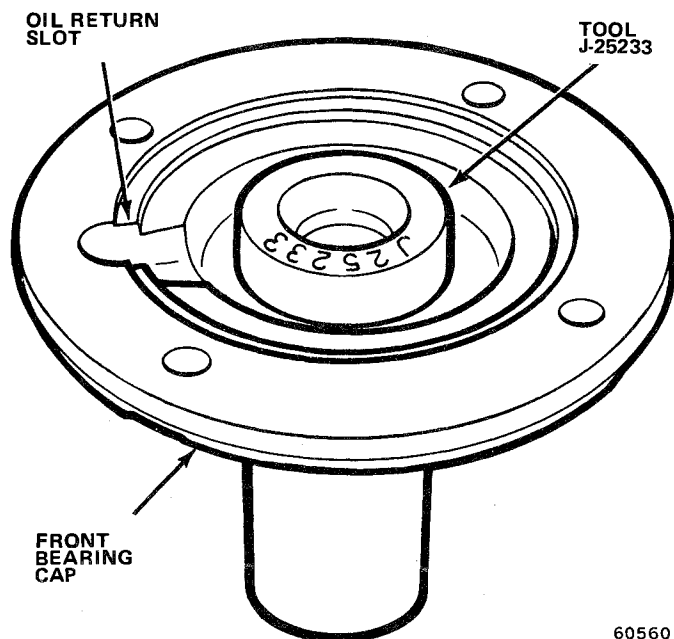

Fig. 2B-15 Front Bearing Cap Oil Seal Installation
(27) Coat blocking ring surface of clutch shaft with transmission lubricant and position blocking ring on shaft.
(28) Support main shaft assembly and insert clutch shaft through front bearing bore in case. Seat main shaft pilot in clutch shaft roller bearings and tap bearing into position in case using rawhide mallet.
(29) Apply thin film of sealer to front bearing cap gasket and position gasket on case. Be sure gasket notch is aligned with oil return hole in case.
(30) Remove front bearing cap oil seal using screwdriver and install replacement oil seal using Tool J-25233 (fig. 2B-15).